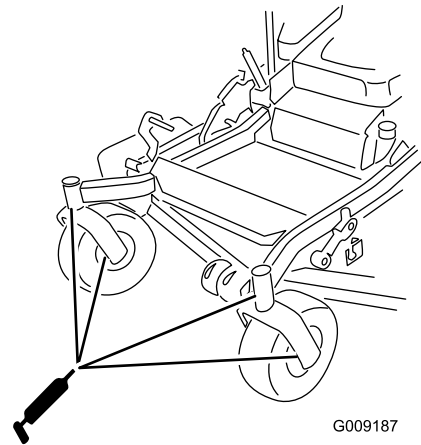

Figure 44
12. Install the hex plug and dust cap (Figure 44).
13. Grease the caster-wheel bearings (Figure 44).